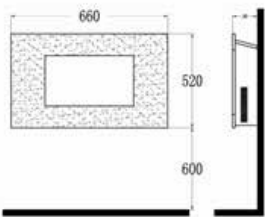

Fig. 3
- A height of 600mm from bottom of heater to floor is recommended for optimum viewing of fuel bed (see Fig.3 for recommend fixing dimensions).